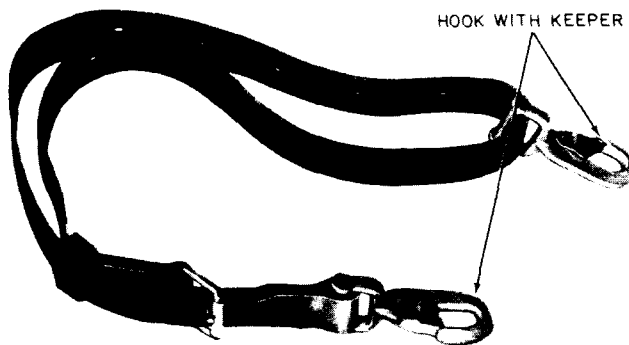

Fig. 3—D Safety Strap
2.07 The D safety strap (Fig. 3) is available in one size only. It is adjustable in increments of 1-1/2 inches from 36 inches to 61-1/2 inches.